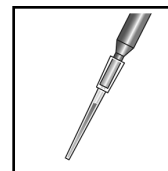

Figure 2
- Depress the plunger on the minipet. Immerse the yellow tip in the water sample and release the plunger. When the plunger is released, a portion of the test sample will be drawn into the yellow tip (figure 2).